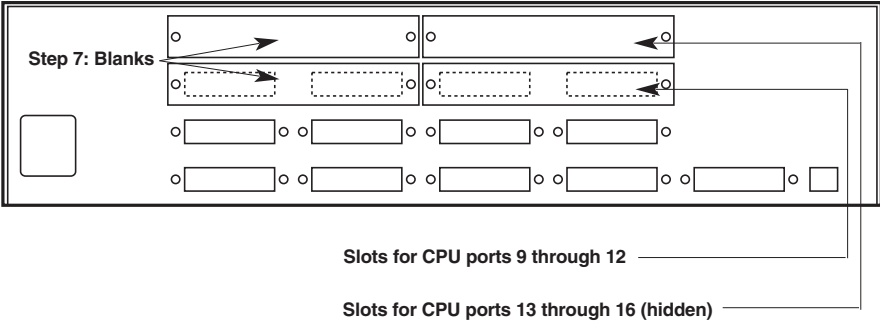

Figure 3. The Switch's back panel\*.
7. Depending on how many Expansion Boards you are installing, you will need to remove two or four of the CPU-port blanks (covering plates) that are attached to the Switch's back panel and cover the CPU-port slots—see Figure 3 on page 7. Unscrew and remove the screws that fasten these blanks to the back panel, then remove the blanks themselves.